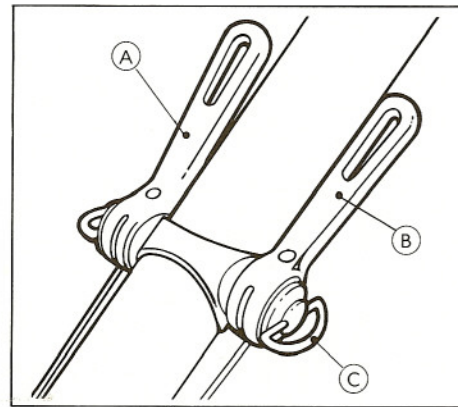

Figure 4. Shift Levers
The word *derailleur* refers to the derailing or shifting of the chain from one sprocket to another. The derailleur system includes the front and rear derailleurs, the shift levers, and the cables (Figures 4 through 7). A variety of gear ratios allows you to maintain a constant rate of pedal revolutions in spite of changes in terrain, weather, and your physical condition.
The gear shift levers, Figure 4, are operated by fingertip control. The left-hand lever controls the front derailleur and the right-hand lever controls the rear derailleur. Shift only one lever at a time. Choose the gear combination most comfortable for the road conditions, and you should be able to maintain a constant rate of pedalling. It is not essential that various gear combinations be used in sequence.
**Shift Levers.** If a shift lever is too tight to move or is so loose that it moves back to the forward position after a shift, then the friction screw needs to be adjusted. See Figure 4.